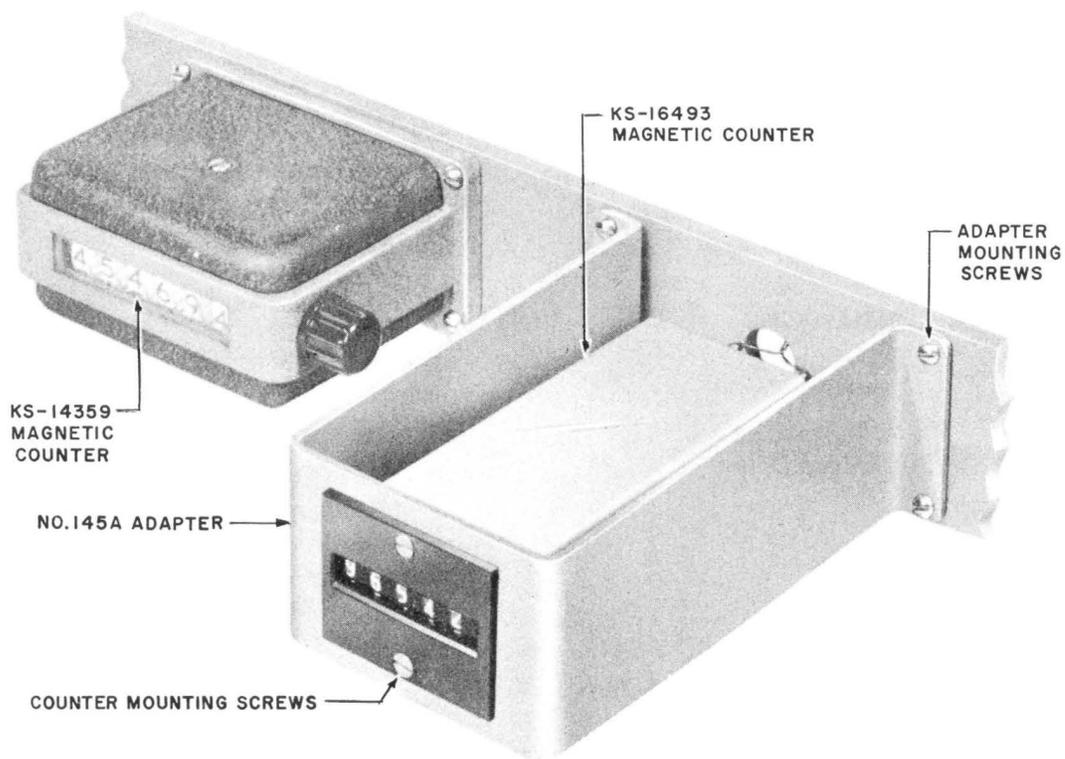

Fig. 1 – KS-16493 Magnetic Counter and No. 145A Adapter Mounted in Place of a KS-14359 Magnetic Counter
(1) Insert the counter through the rectangular hole of the adapter as shown in Fig. 1. Fasten the counter to the adapter using the mounting screws furnished with the counter and securely tighten the screws with the 3-inch cabinet screwdriver.
(2) Cut two lengths of No. 24 gauge wire approximately 24 inches long and skin the ends of the wires in the standard manner. Connect and solder these wires to the terminals of the counter.
(3) Insert the counter leads through the hole in the mounting plate in the position in which the counter is to be mounted. Position the adapter on the mounting plate with the counter terminals at the top. This will position the counter so that the numerals are upright. Mount the adapter on the mounting plate using the mounting screws furnished with the adapter and securely tighten the screws with the screwdriver.
(4) Connect and solder the counter leads to the terminals from which the leads of the KS-14359 counter were removed. Dress the leads to conform with the associated wiring.